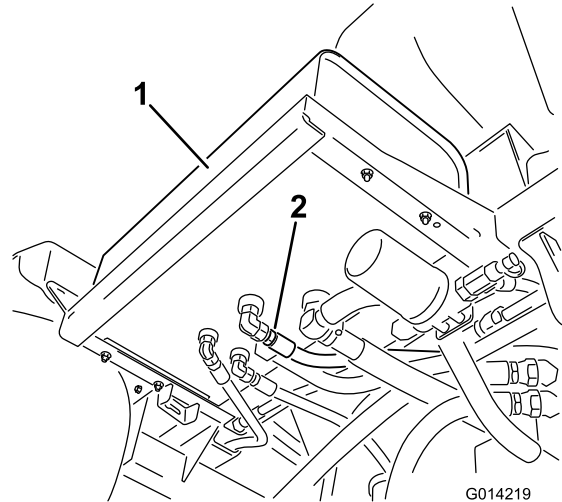

Figure 98
2. Clean the area around a hydraulic-hose fitting on the bottom of the hydraulic-fluid tank (Figure 98).
4. Remove the hose fitting from the tank, allowing the fluid to drain into the pan (Figure 98).